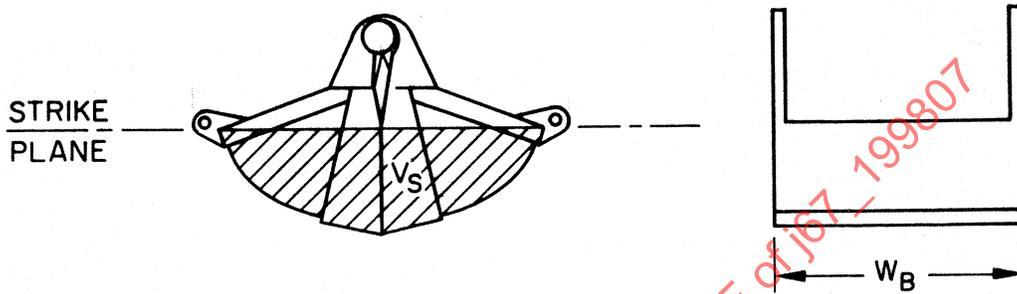

FIGURE 2—CLAM BUCKET STRUCK CAPACITY
3.3 Clam Bucket—SAE struck capacity is the volume of the material in the bucket after it has been struck at the strike plane. The strike plane shall pass through the top edge of the back bands (see Figure 2).